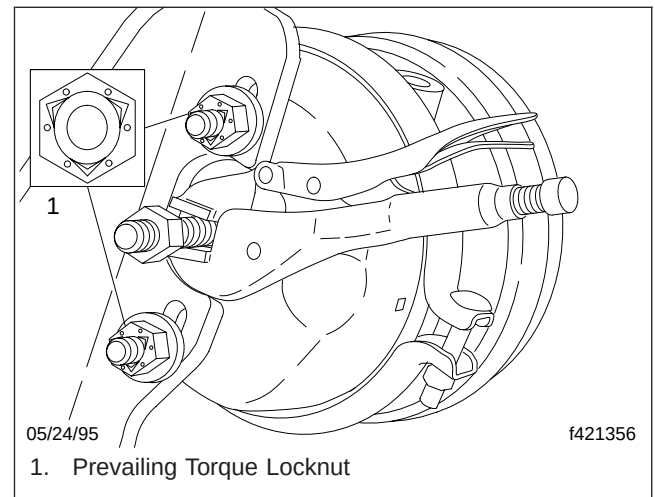

Fig. 2, Locking the Piston Rod in Place
- 1.2 With the brakes applied, clamp a pair of locking-jaw pliers on the piston rod to lock the rod in place when the air pressure is released. See Fig. 2.